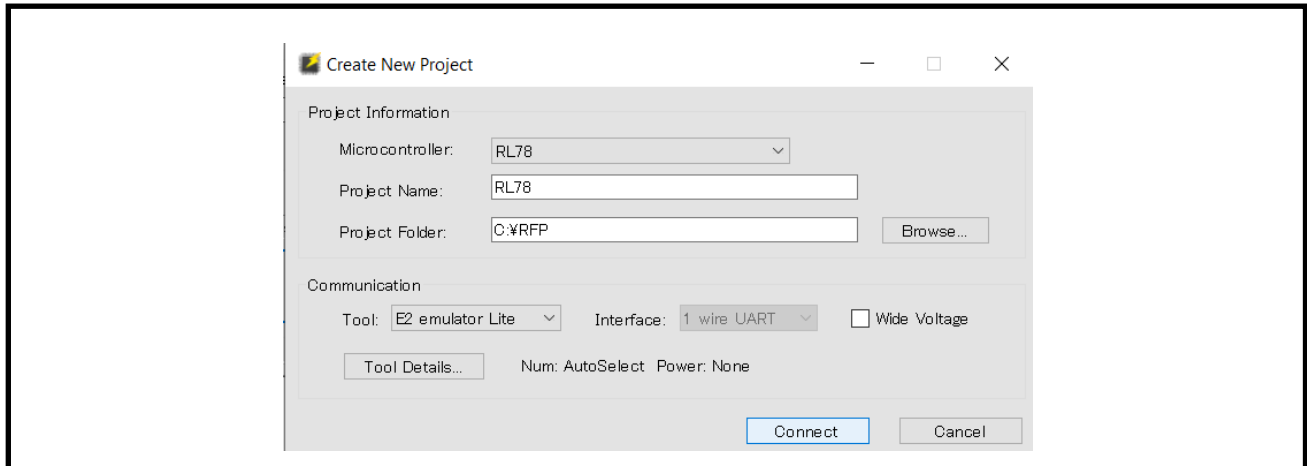

Figure 5-5 Create New Project (RAJ306102)
2. Execute Renesas Flash Programmer, then connect from menu "File" > "New Project..." in reference to **Figure 5-5**. Note.1